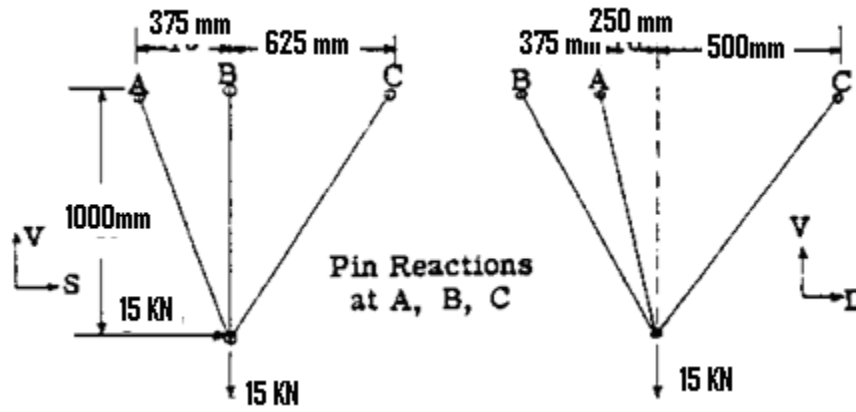

Figure 5
6. Determine the axial loads in the members of the landing gear structure shown in figure 5. The members are pinned to supports at A, B and C. [16]